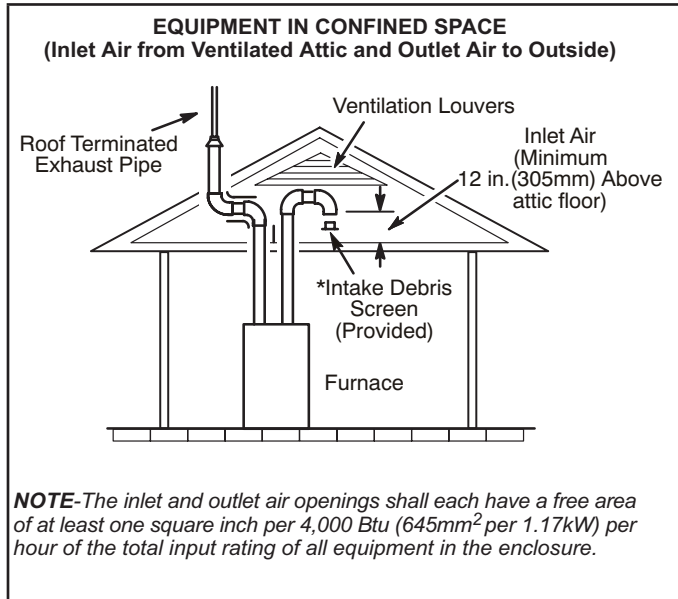
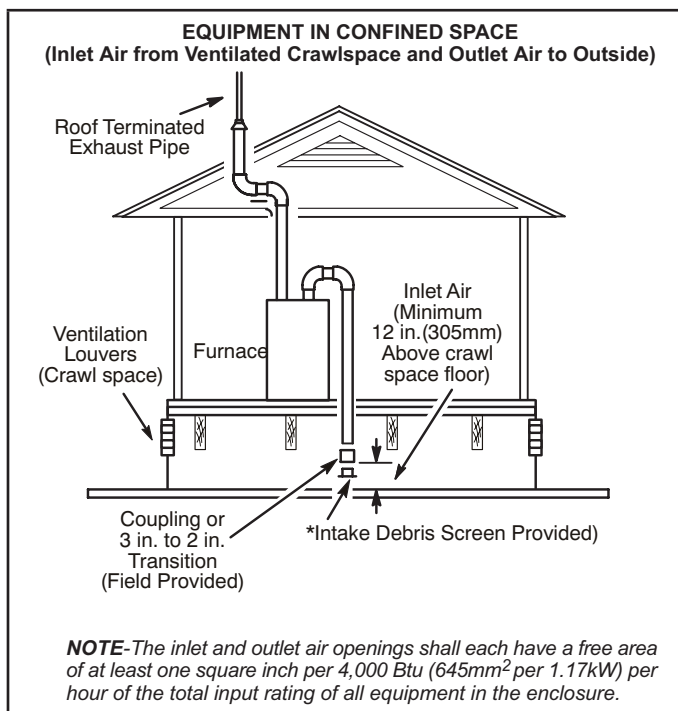

FIGURE 29
FIGURE 30
- 2 - If intake air is drawn from a ventilated attic ("FIGURE 29") or ventilated crawlspace ("FIGURE 30") the exhaust vent length must not exceed those listed in table 6. If 3" diameter pipe is used, reduce to 2" diameter pipe at the termination point to accommodate the debris screen.